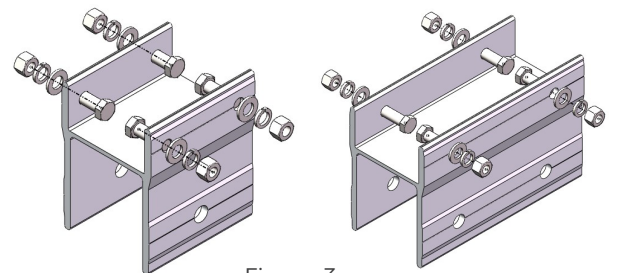

Figure 3
5.1.2 As shown in Figure 3, place bolts M12*35 into H Joint 130/240.